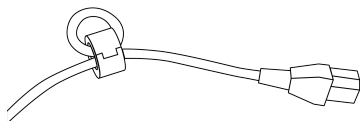

Figure 6-18. Ferrite installed on printer power cable
6. Install the ferrite (Takachi Electronics model TFT152613N) on the printer's power cable, looped a single time three inches from the end that will plug into the printer (Figure 6-18).